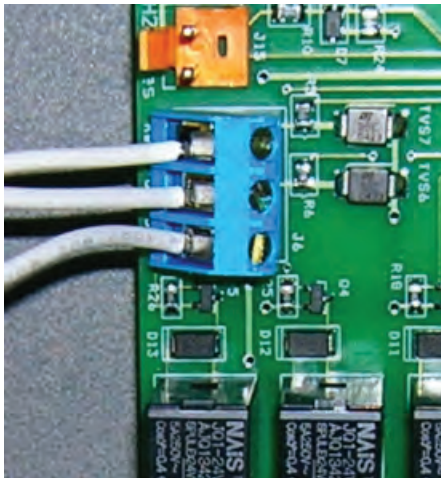

Figure 25. Remote Pool-Off\_Spa Connection (3-Wire Connection)
4. Connect the wiring from the pool/spa control system to the heater remote control terminal. See Figure 25.